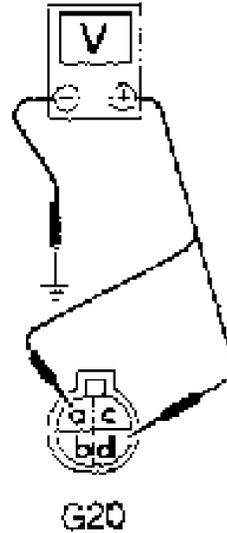

Fig. 4: Crankshaft Angle Sensor Terminal ID (G20)
2) To test crankshaft angle sensor, remove crankshaft angle sensor (Q45) or distributor (G20 and M30). Leave sensor wiring connected. Using a logic probe or DVOM with an analog bar graph function, touch negative lead to ground and positive lead to one-degree and 90/120/180-degree signal terminals of ECU. See CRANKSHAFT ANGLE SENSOR SIGNAL HARNESS TERMINALS table. See Fig. 4 to 6.